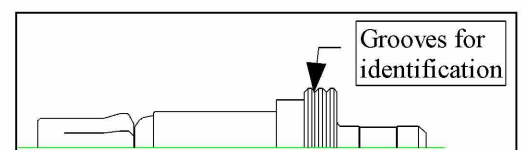

Fig. 28 - Sleeve holder
- The sleeve holder for Super 300 Type Pillar Fitting P Series has dual grooves on its flange (see Fig.28).